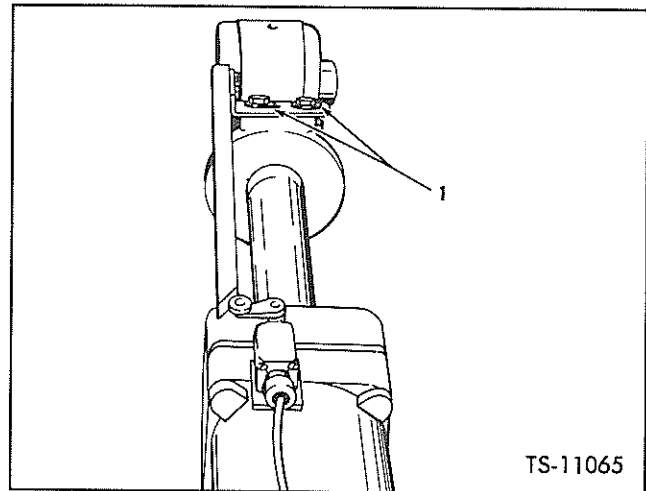

Fig. 16. Adjust Bucket Leveler
**Adjust Bucket Leveler:** Servicing and adjustment procedures are as follows, see Figure 16; Leveler cam must be parallel to cylinder rod.
Servicing and adjustment procedures are as follows: Refer to Figure 16 for correct position of leveler cam in relation to roller on electric switch when bucket is in a level position.
bracket allow adjustment either in or out to maintain proper roller arm stroke, .125 in. (3,2 mm) to actuate. (Figure 16 Item 1).